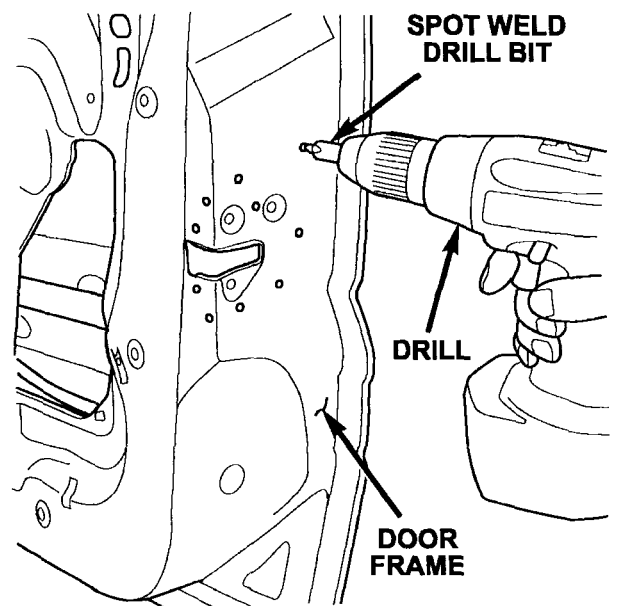

Figure 4
12. Using a spot weld drill bit (Snap-on YA2550-2 or equivalent) or a sharp twist drill bit, drill out the spot welds that hold the reinforcement plate to the door frame (Figure 4).